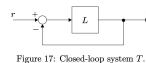

Figure 17: Closed-loop system  $T$ .
**Problem:** Consider the closed-loop system  $T$  shown in Figure 17, where  $L$  is a linear time-invariant system.